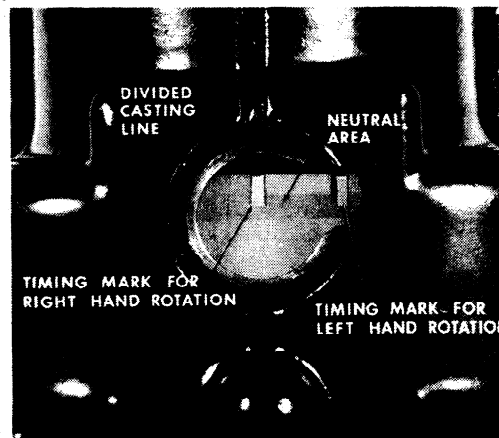

Figure 2. Alignment of Magnet Marks — Right Hand Rotation
- b. Continue turning the engine slowly, still in the direction of normal rotation, until the proper timing mark on the rotating magnet is centered in the viewing hole. Figure 2 illustrates the timing mark centered for a right hand rotation magneto. A left hand rotation magneto would have the left hand mark centered. (See figure 2.) Eight cylinder magnetos will show an "R" line or an "L" line on the rotating magnet.
one cylinder firing position until proper timing mark on rotating magnet is in the center of the viewing hole. (See figure 2.)